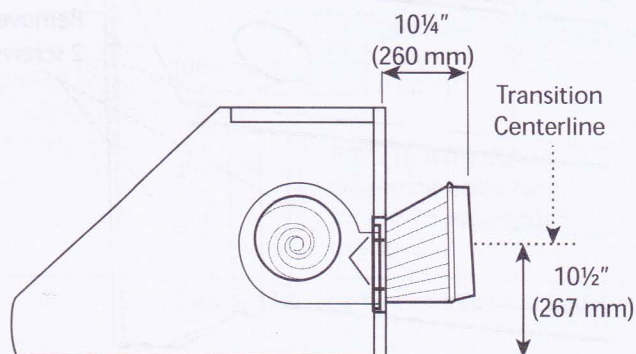
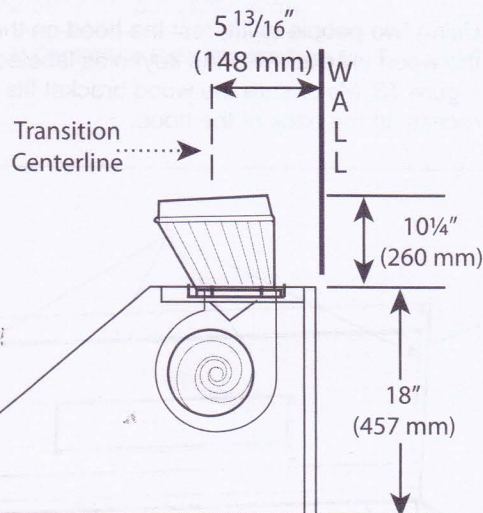

Figure 10: Transition Centerline for Horizontal Discharge
Figure 11: Transition Centerline for Vertical Discharge
The transition supplied with the hood connects to standard 10-inch round duct. *Figure 10* shows the transition connected for horizontal discharge.
Figure 11 shows the hood configured for vertical discharge. Installations using this method require a cutout in the ceiling to accommodate 10" (254 mm) duct and the 1/2" (13 mm) conduit carrying power to the unit.
13. Before hanging hood, install transition per *Figure 10* or *Figure 11*. Fasten transition with (2) 3/8" sheet metal screws (supplied) and aluminum tape per all applicable codes.